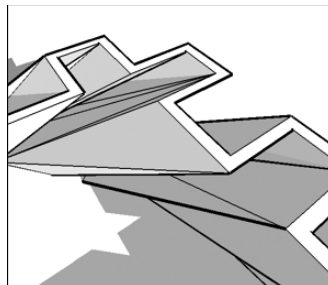

Figure 13-3:
- **Anti-alias:** Because raster images use grids of colored squares to draw pictures, diagonal lines and edges can sometimes look jagged and, well . . . lousy. *Anti-aliasing* is a process that fills in the gaps around pixels with similar-colored pixels so that things look smooth. Figure 13-3 illustrates the concept. In general, you want to leave anti-aliasing on.